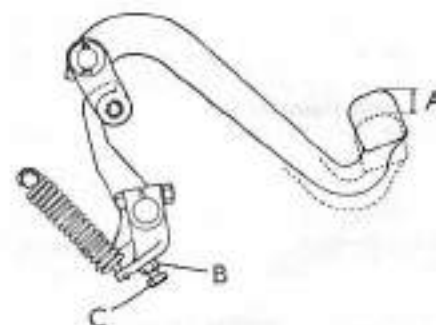

Fig. 83—On models 880 and 990, adjust clutch pedal free play by loosening lock nut (B) and turning screw (C).
123. Clutch pedal free play (A—Fig. 83) should be from one to $1\frac{1}{2}$ inches. To adjust, loosen lock nut (B) and turn adjusting screw (C) as necessary